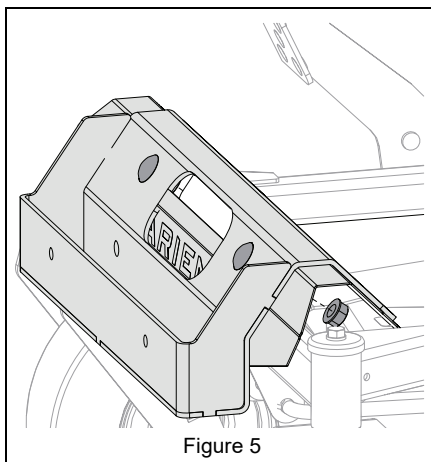

Figure 5
2. Position footrest onto back of weight tray (item 1).
4. Secure the front of footrest/weight tray assembly to the chassis with hardware installed in step 3 and two 1/2" center locking flange nuts removed earlier. See Figure 5.